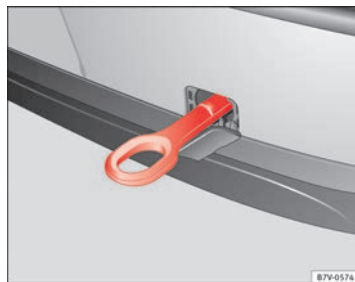

Fig. 222 On the rear bumper, to the right hand side: Tow ring in position
The location for the removable towline anchorage is on the right-hand side of the rear bumper ⇒ Fig. 222. For vehicles with a factory fitted towing bracket, there is **no** fitting behind the cover to insert the towline anchorage. For towing, fit and use the tow hitch ⇒ page 237, ⇒ ①.